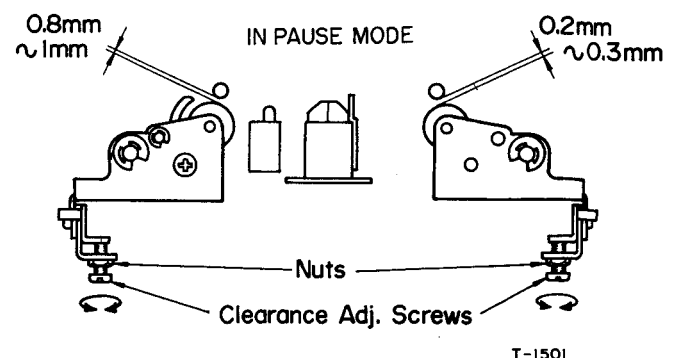

Fig. 5-6 Adjusting Capstan Shaft/Pinch Roller Clearance
4. Turn the clearance adjusting screw so that clearance between capstan shaft and pinch roller will meet spec. shown in Fig. 5-6. Do this adjustment respectively in both right capstan shaft/pinch roller and left ones.